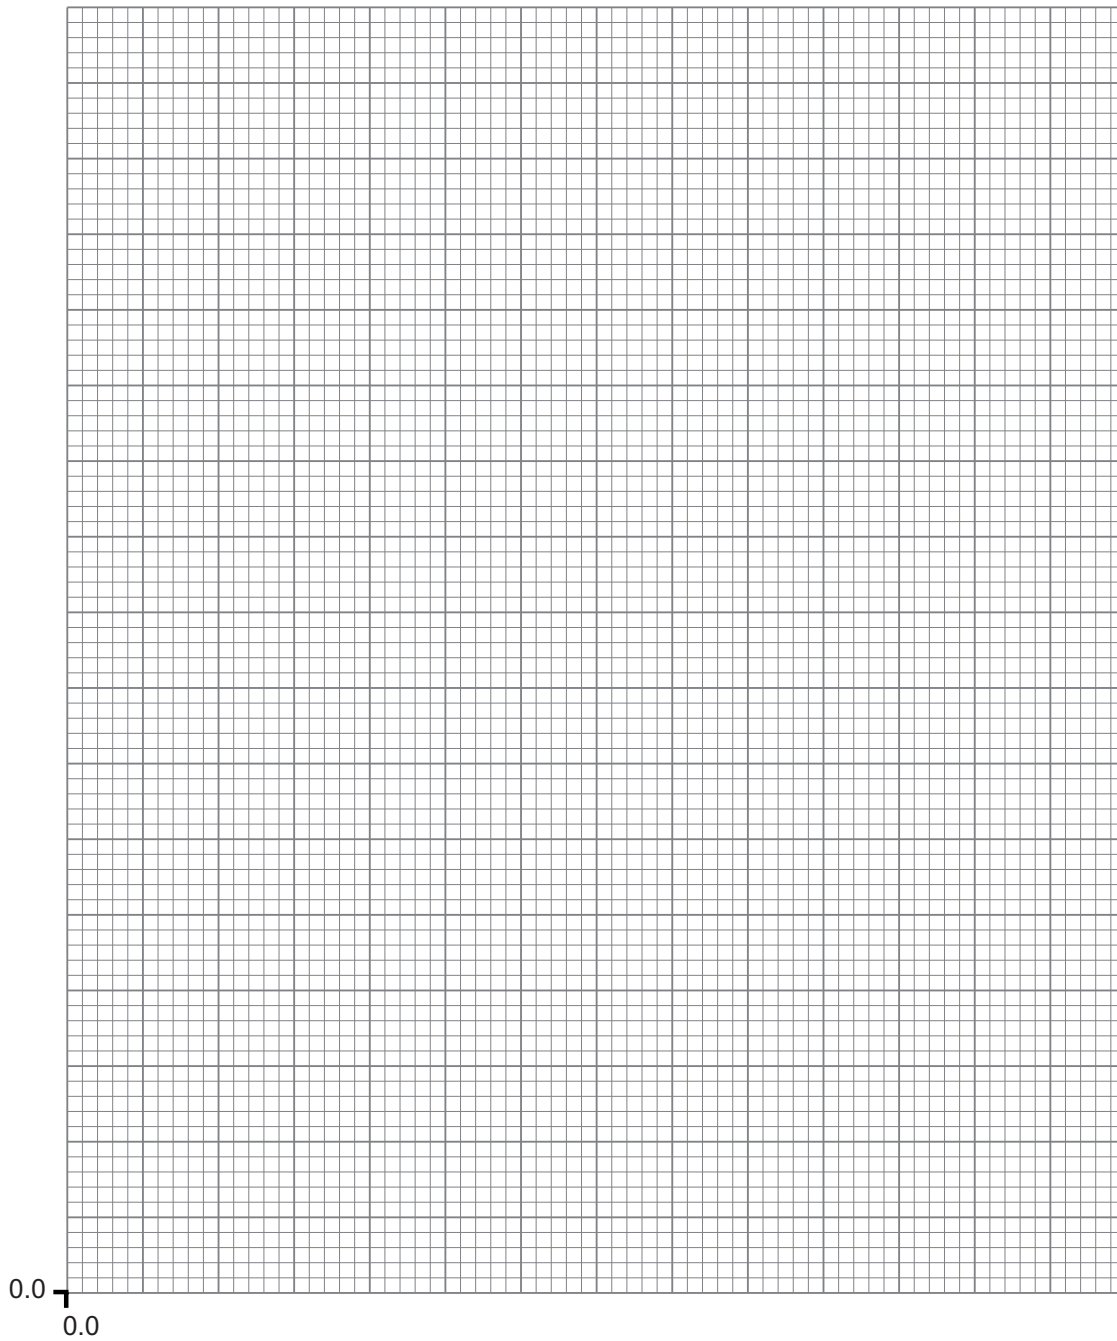

Fig. 5.1
- (iii) On the grid of **Fig. 5.1**, draw the graph given in **(b)(i)** using the processed data in **Table 5.1**. Label the axes and choose suitable scales. Plot the points and draw the best fit straight line. [5]
On the grid of **Fig. 5.1** draw a line to show the graph that would have been obtained if the experiment had been carried out in shallow water instead of in deep water, label this line S . Use your value of P and the space below for any necessary calculations.